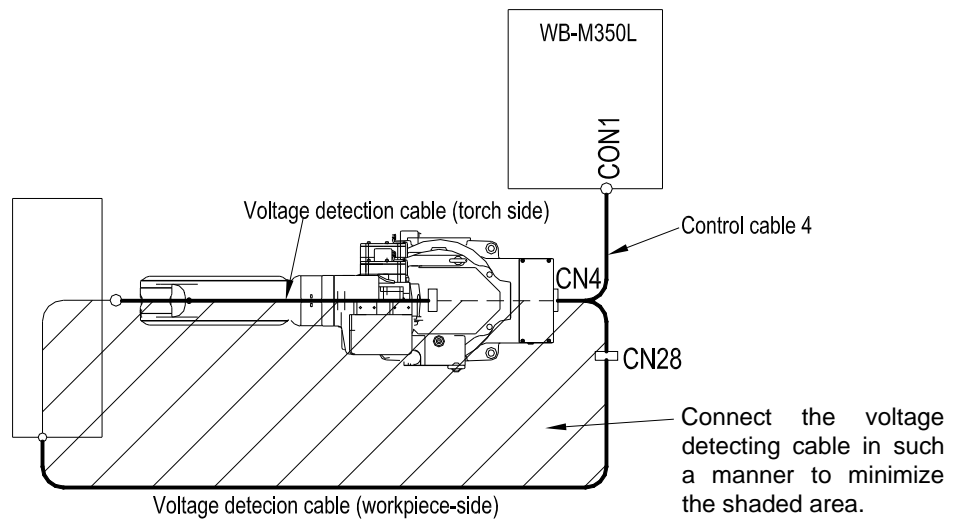

Figure 2.1.8 Routing of the Voltage Detecting Cable (workpiece side)
- Wire the torch (voltage detecting wire) to along with the voltage detecting cable (workpiece side) as much as possible and lower the shaded area Figure 2.1.8.